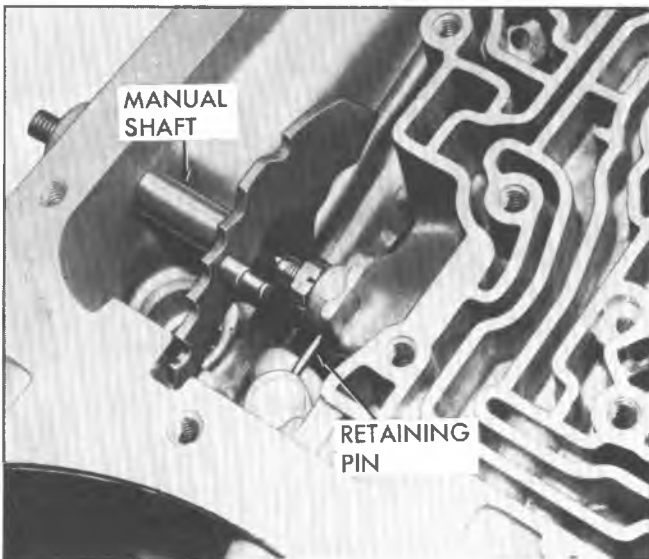

Fig. 17T--Removing Manual Shaft Retaining Pin from Case
2. Remove manual shaft retaining pin from case (fig. 17T).